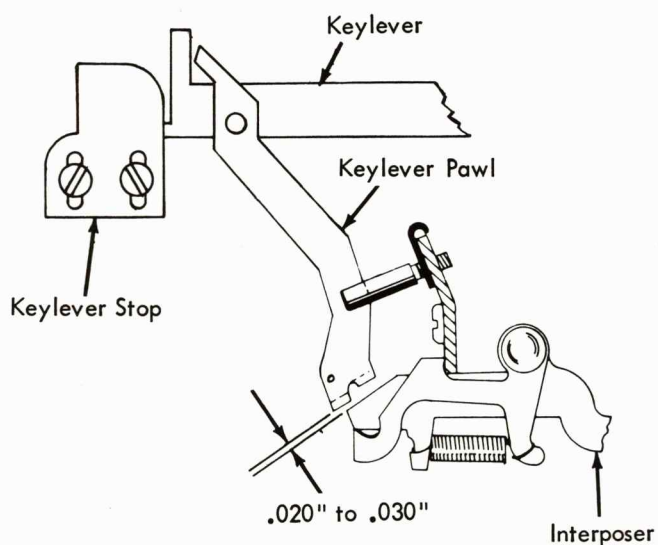

FIGURE 113. Keylever Pawl To Interposer Clearance
- Position the keylever stop so that all keylevers clear their interposer .020" to .030" (Fig. 113).